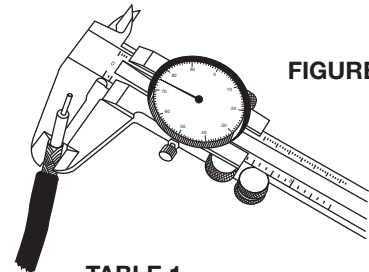

FIGURE 1
1. Measure the diameter of the cable shield using a calibrated measuring tool or the RSK gauge (part number RSK-LEHRE) which is in the tool case lid. Rotate the cable in order to locate the maximum shield diameter. Exert only light pressure on the cable to get an accurate measurement, see Figure. 1.